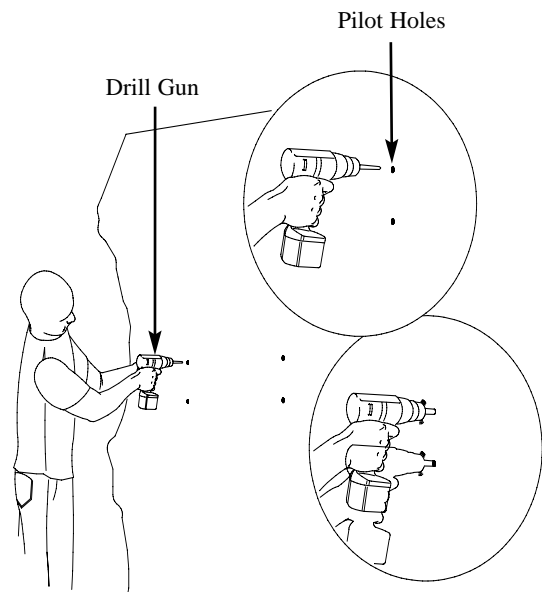

Figure 10
3. Pilot holes are recommended. Use a 1/4" drill bit to drill where your markings are located (Figure 10). These pilot holes will be for the lower mounting plate.